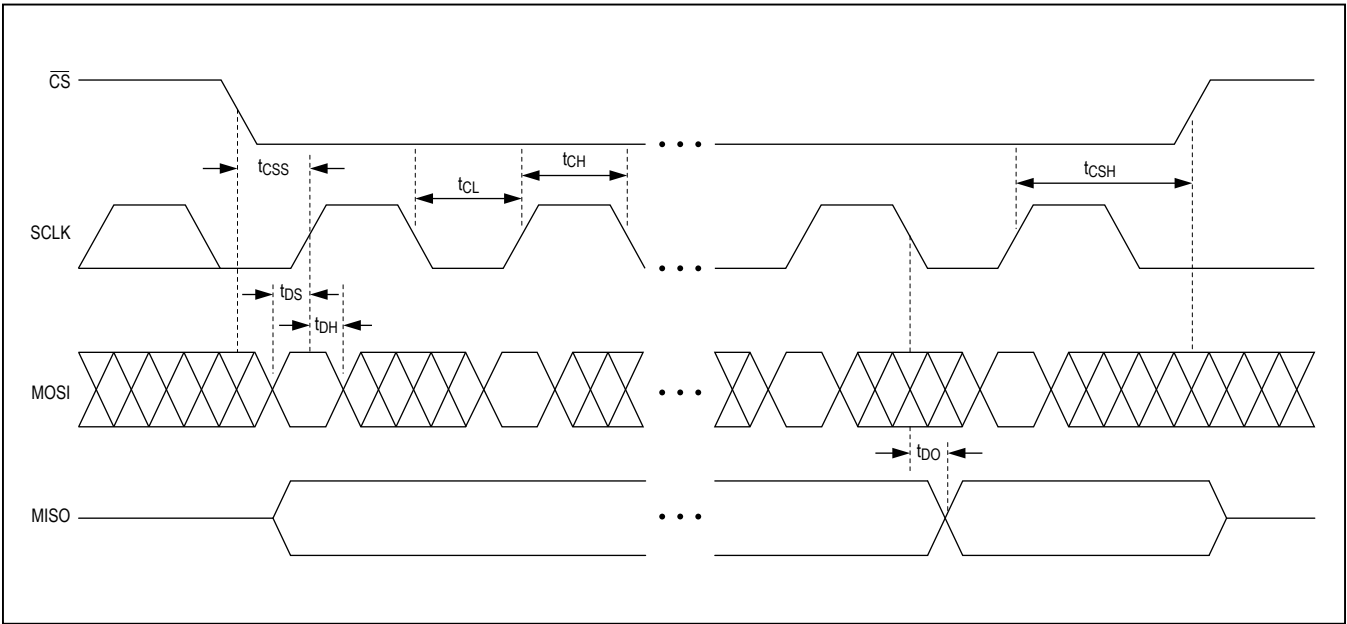

Figure 12. SPI Timing Details
In SPI mode, the device operates a shift register designed to work with common serial interfaces. The bits are shifted through so that a large serial chain can be made to minimize pins needed for a system with multiple devices. (See Figure 12.) This shift register is also designed to be compatible with common microcontroller SPI-type interfaces. The switches in the MAX14661 are all transitioned simultaneously. To update the switches in SPI mode, the user must shift in a bit with the desired state of each switch according to the data format listed in Table 4. The switches are updated at the rising edge of $\overline{CS}$ with the last 32 bits of data shifted in **only if the number of bits clocked in is greater than or equal to the number of switches (32)**. The DOUT pin is the serial output of the shift register. This outputs the data loaded into DIN, delayed by 32 clocks, and is intended for creating a serial daisy chain to minimize the number select lines required
Note that the data in the shift register may not be the same as the state of the switches. The DOUT pin is intended for daisy chain applications and not for switch readback. Note for V_{CC} less than 2.7V, the DOUT propagation delay can limit the maximum SPI operating frequency. See Figures 12 and 13 for the SPI timing diagrams. The voltage level driven out by the DOUT buffer is set by the voltage applied to SPI/I^2C . This allows the voltage to be independent from the supply voltage. While we expect the voltage at SPI/I^2C to be less than or equal to V_{CC} in most applications, it can be higher than V_{CC} as long as it does not exceed V_{CC} before V_{CC} has reached at least 1.8V.